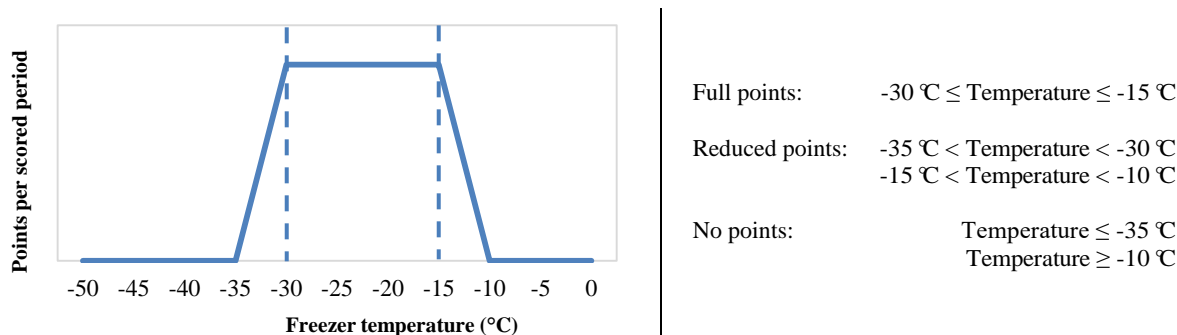

Figure 7 Scoring function for the Freezer Subcontest
- Reduced points are earned if the time-averaged interior freezer temperature is between -35 °C and -30 °C or between -15 °C and -10 °C. Reduced points are scaled linearly, as shown in Figure 7.